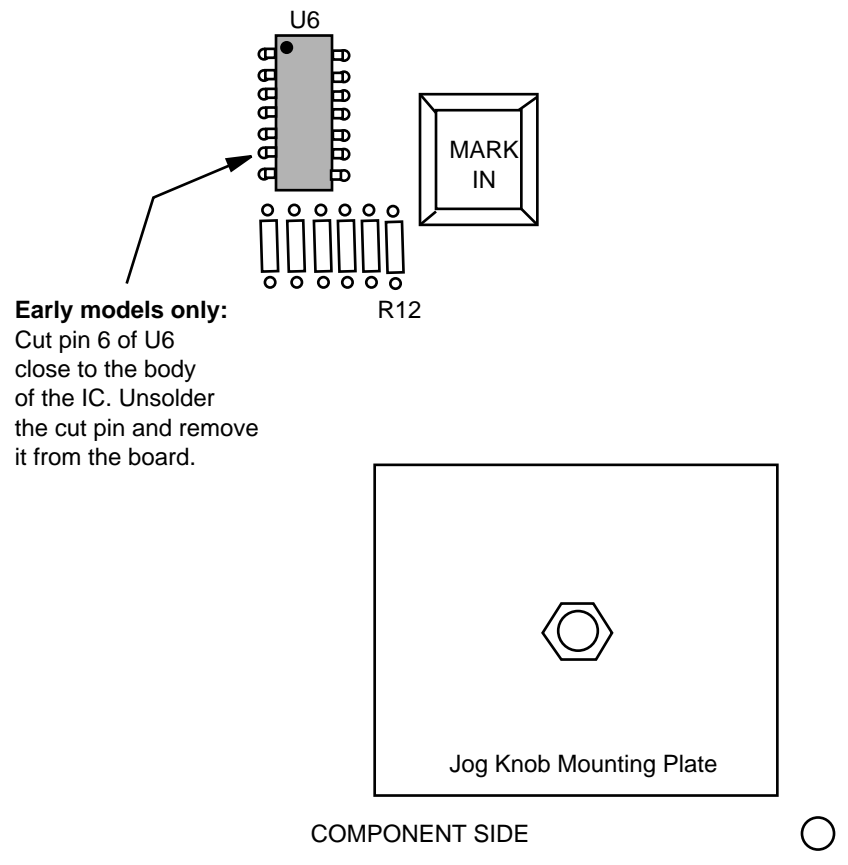

Figure 3. Location of U6 pin 6 on Early Model Keyboards
6. **For early model keyboards only**, cut pin 6 of IC U6 near the body of the IC. Unsolder and remove the cut pin from the pc board (Figure 3).